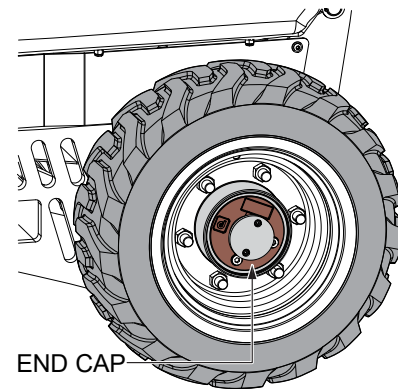

**Figure 43. Filling Motor Oil**
3. To fill motor oil, rotate the wheel to the orientation shown in Figure 43.
4. Unscrew fill plug and fill with oil to the level shown in Figure 43. Use oil Type SAE 90.